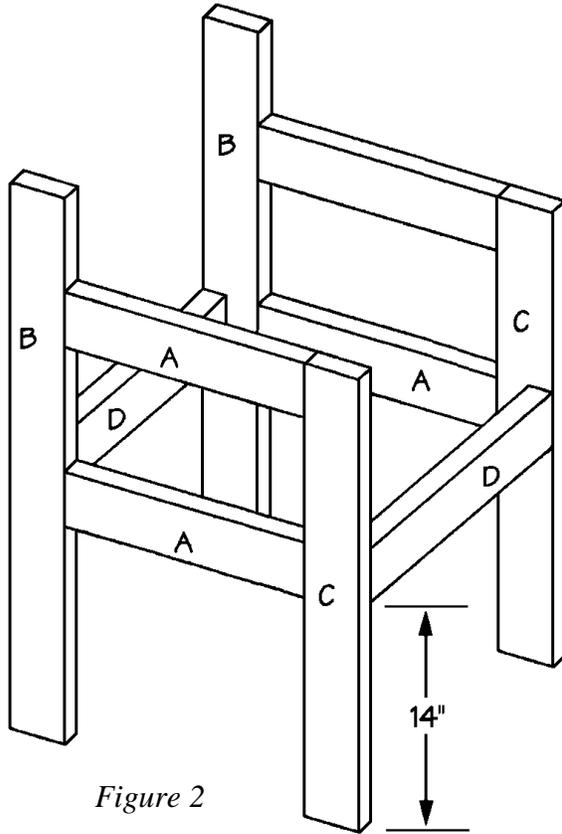

Figure 2
1. Cut two Outer Seat Supports (D) from 2 x 4 pine, each measuring 20 inches long.
2. For the next step you may want to ask for a willing helper to assist. If no one is available (or willing), use a bar clamp to hold the assembly while you screw it together. Place the side assemblies on one 35" edge, parallel to each other and 20 inches apart. Fit one Outer Seat Support (D) between the two side assemblies, 14 inches from the upper edge of the two side assemblies. The top edge of the Outer Seat Support (D) should be exactly even with the top edge of the lower Horizontal Side (B) as shown in *Figure 2*. Apply glue to the meeting surfaces, and screw through the side assemblies into the ends of the Outer